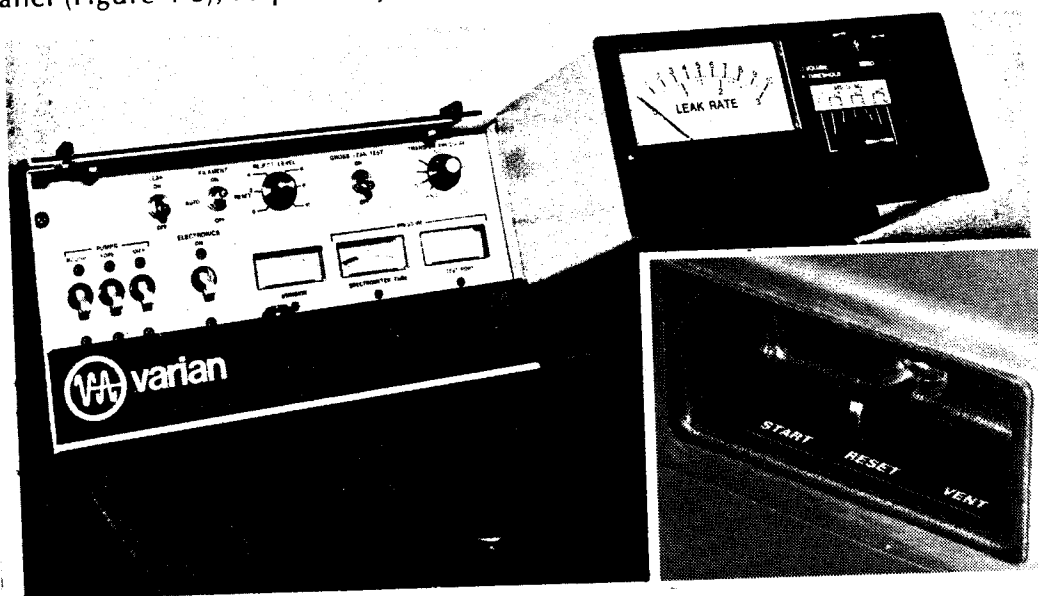
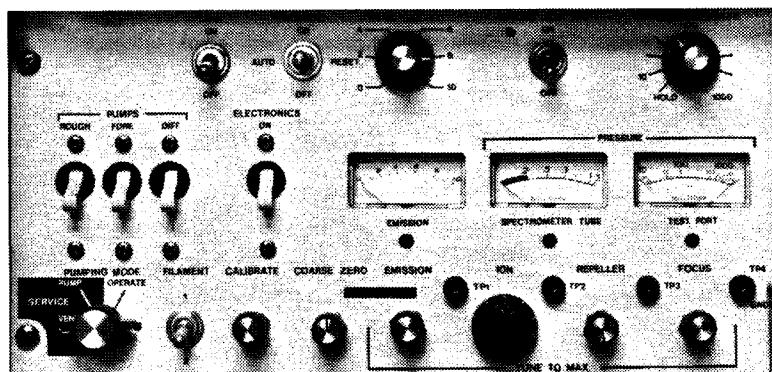
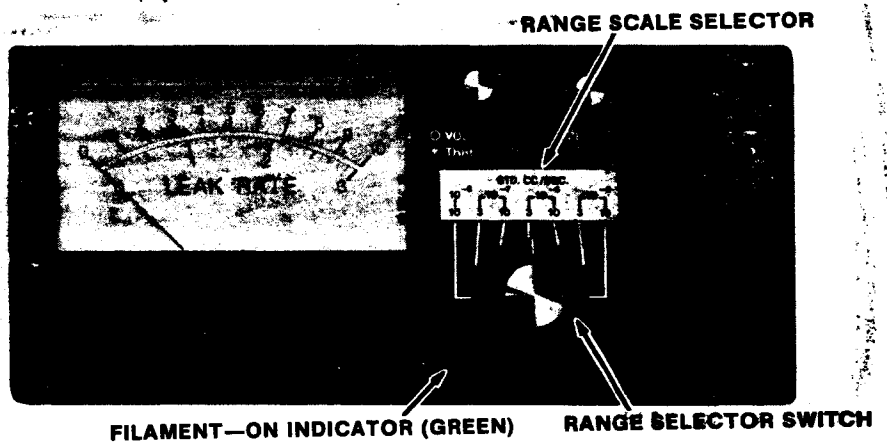

Figure 4-1. Leak Detector Controls
Figure 4-2. Control Panel Controls and Indicators
Figure 4-3. Leak Indicator Panel
Figures 4-1 through 4-3 show the leak detector operating controls and indicators. Tables 4-2 and 4-3 describe the operation of controls and indicators on the Control Panel (Figure 4-2) and the Leak Indicator Panel (Figure 4-3), respectively.
Control Panel (Fig. 4-2)
Leak Indicator Panel (Fig. 4-3)
- (3) Plug machine into appropriate receptacle. The compressor (if present) will start. Some of the panel lamps will light, indicating that the pumps and the filament are off.
- (4) If no compressor is built into the machine, connect a source of compressed air to the 1/4 inch (NPT) port at the left corner of the rear of the machine.
- (5) Turn on the circuit breakers (Figure 4-2) for the ROUGH, FORE, and DIFF pumps. The respective RP OFF, BP OFF, and DP OFF warning lamps on the Leak Indicator Panel turn off as each pump turns on. The diffusion pump lamp (DP OFF) remains lighted until the pressure in the diffusion pump foreline has been sufficiently reduced (approximately 1 minute) and sufficient cooling air prevails.
- (6) Turn the SENSITIVITY control (at the back of the upper cabinet, inside the cover) to LOW to heat the diffusion pump more quickly. This control permits sensitivity and test port pressure adjustments, but keeps power constant, wherever it is set. See Section 6-8.11 (-70) for full explanation.
- (7) Allow 30 minutes for the diffusion pump to warm up, then place the ELECTRONICS circuit breaker in the ON position. Verify that the SPECTROMETER TUBE PRESSURE meter reads upscale, then turn the PUMPING MODE switch to the OPERATE position.
- (8) When the SPECTROMETER TUBE PRESSURE meter is in the green band, set the FILAMENT ON/OFF switch in the AUTO RESET position to turn on the filament. (Switch may be returned to ON position if leak detector will be left unattended.)